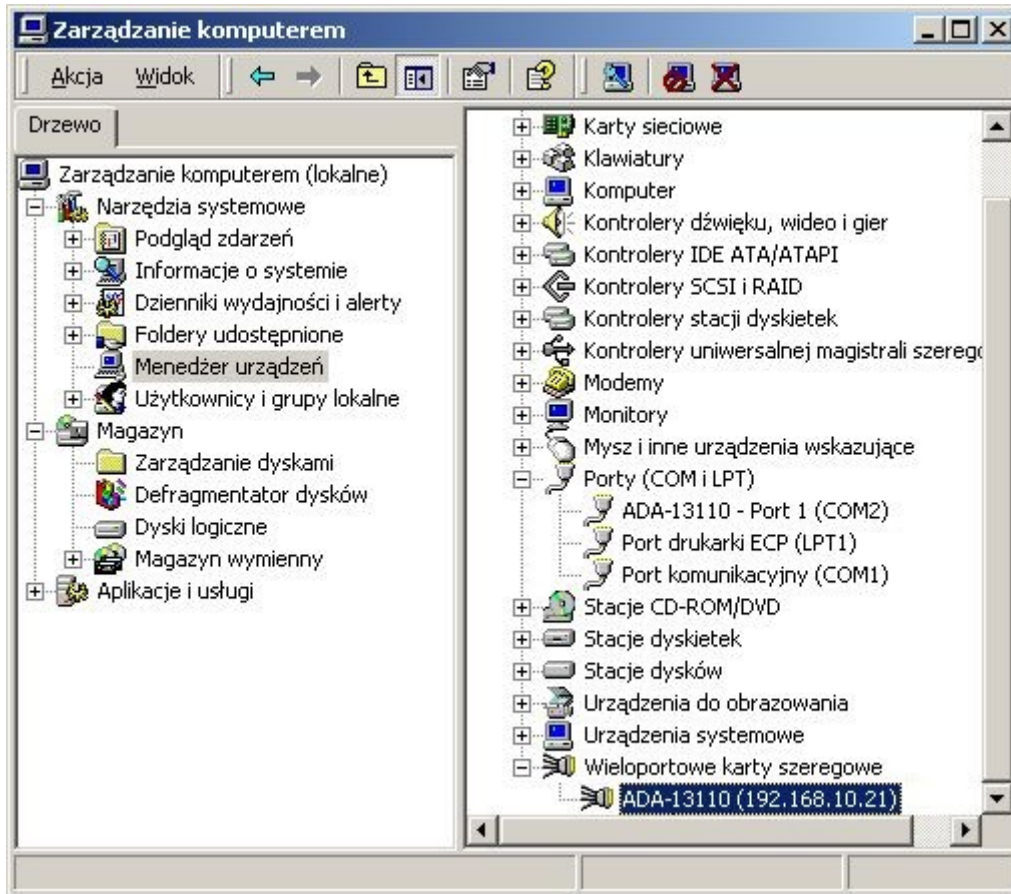

Fig 20. Devices view on Windows XP
3. Press [**Ports (COM & LPT)**]. On fig. 20 are shown available serial ports COM1, COM2 and **COM3** marked as **ADA-13110** which was created after installation of RealPort driver.